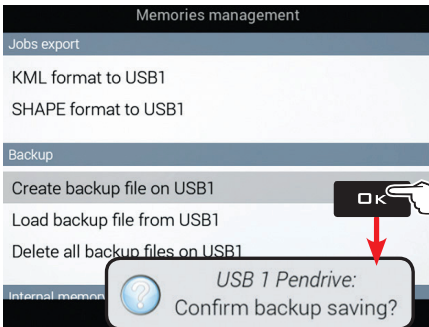

Fig. 283
- Select **Create backup file on USB1** (Fig. 283) and press **OK**.